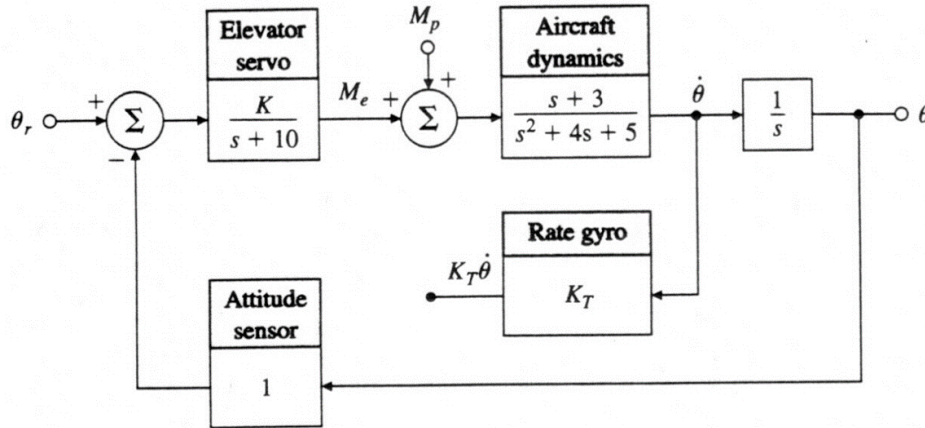

Figure 2: Golden Nugget autopilot
6. (Bonus points) Golden Nugget Airlines has opened a free bar in the tail of their airplanes in an attempt to lure customers. In order to automatically adjust for the sudden weight shift due to passengers rushing to the bar when it first opens, the airline is mechanizing a pitch-attitude auto pilot. Figure 2 shows the block diagram of the proposed arrangement. We will model the passenger moment as a step disturbance $M_p(s) = M_0/s$, with a maximum expected value for M_0 of 0.6.